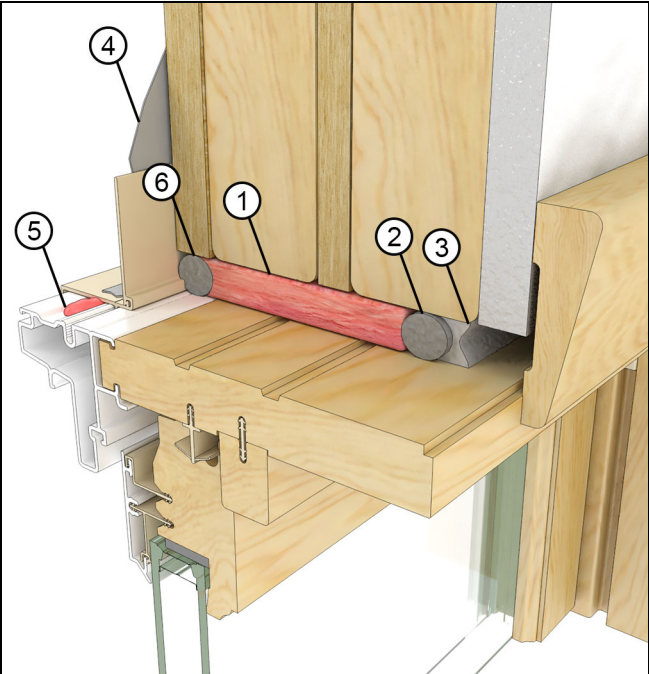

Figure 56
**1. Loose Fill Fiberglass Insulation.** Insulate the RO cavity with loose fill fiberglass insulation. Install a backer rod and sealant at the interior plane of the RO to create a continuous air seal. See Figure 56.